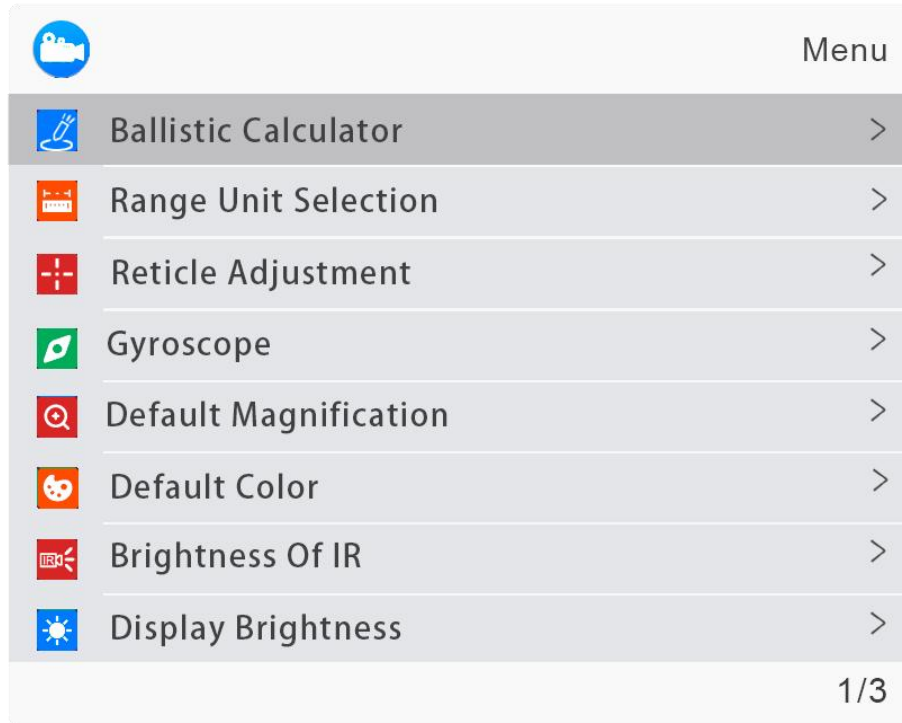

Fig. 19
Home screen mode: press [key 4] to enter the menu mode, where you can set various function options within the menu bar. Please note that the shortcut key function is disabled in this mode (Fig. 19).